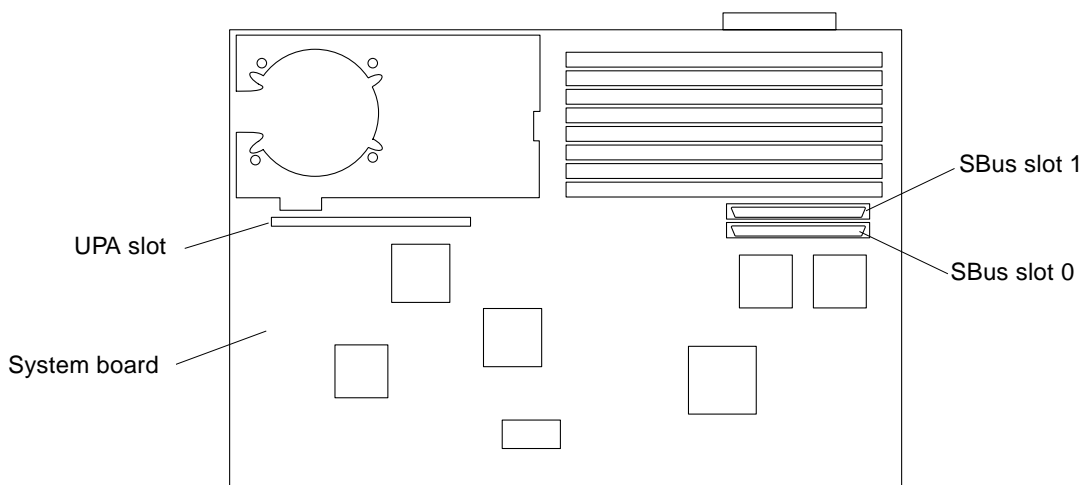

FIGURE 10-12 SBus Slot Locations.
2. Disconnect all cables from the SBus slots (FIGURE 10-12).